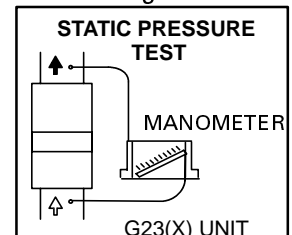

FIGURE 37
- 1 - Measure tap locations as shown in figure 37.